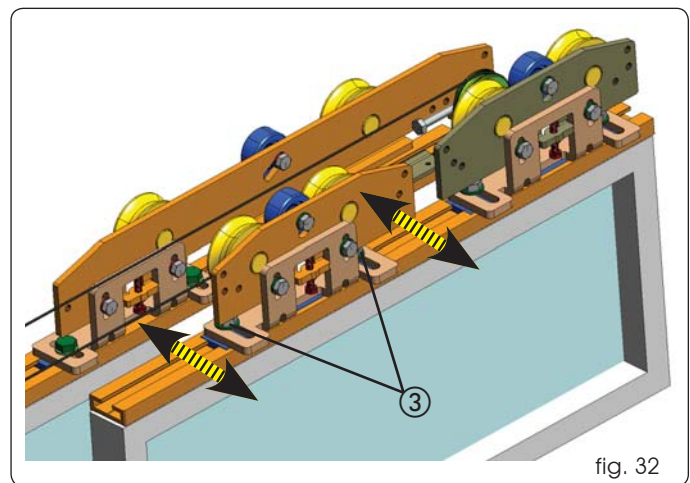

fig. 32
To adjust the depth of the leaves, loosen the 2 bolts as shown in Fig.32 ref. ③.